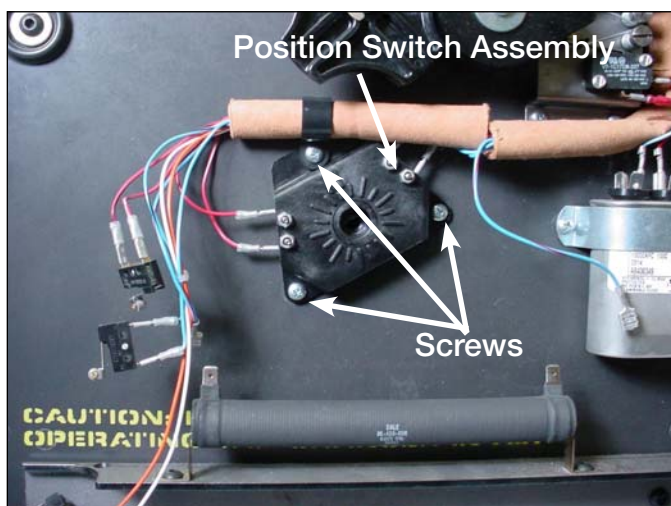

Figure 41.
8. Fasten the tap position switch assembly to the front of the drive panel assembly with three pan head Phillip screws. See Figure 41.